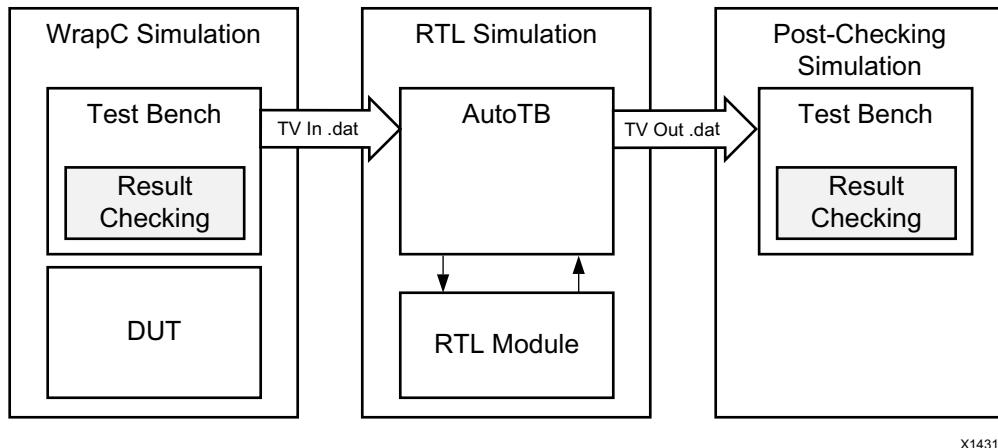

Figure 1-72: RTL Verification Flow
C/RTL co-simulation uses the C test bench to automatically verify the RTL design. The verification process consists of three phases, shown in Figure 1-72.
- Reduce Disk Space: The flow shown Figure 1-72 in saves the results for all transactions before executing RTL simulation. In some cases, this can result in large data files. The `reduce_diskspace` option can be used to execute one transaction at a time and reduce the amount of disk space required for the file. If the function is executed N times in the C test bench, the `reduce_diskspace` option ensure N separate RTL simulations are performed. This causes the simulation to run slower.